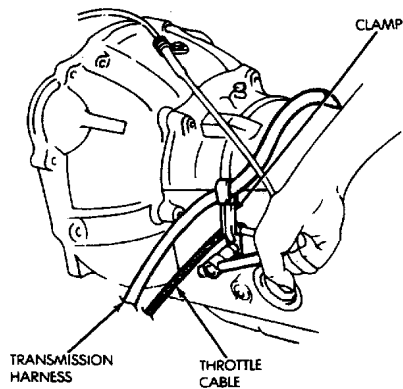
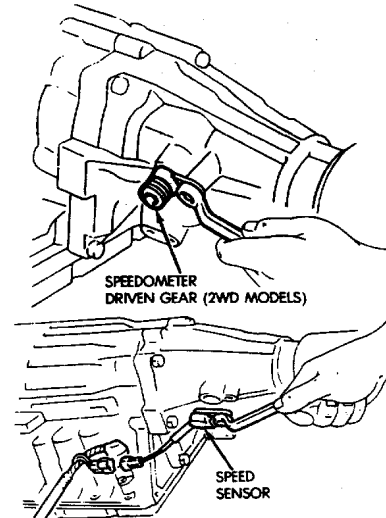

Fig. 1 Remove Harness And Cable Clamp
Fig. 2 Removing/Installing Speedometer Driven Gear And Speed Sensor
- (1) Remove torque converter.
- (2) Remove dipstick and both halves of oil filler tube.
- (3) Remove clamp attaching wire harness and throttle pressure cable (Fig. 1) to transmission.
- (4) Remove shift lever from manual valve shaft at left side of transmission.
- (5) Remove neutral switch.
- (6) Remove speedometer driven gear (if equipped) and remove speed sensor (Fig. 2).